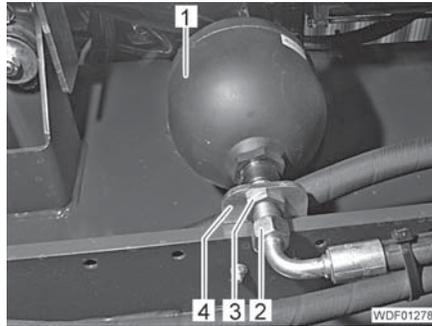

Fig. 192 Diaphragm accumulator
- Unscrew and close off the hydraulic line (Fig. 192,2).
- Unscrew the nut (Fig. 192,3).
- Remove the diaphragm accumulator (Fig. 192,1).
- Insert new diaphragm accumulator into the holder (Fig. 192,4).
- Screw the nut (Fig. 192,3) onto the connection of the diaphragm accumulator and tighten.
- Screw the hydraulic line (Fig. 192,2) onto the connection of the diaphragm accumulator and tighten.